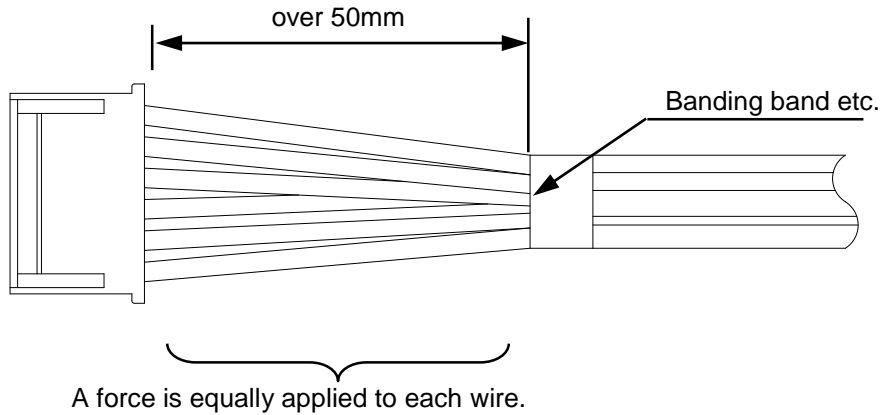

Fig.7-1 A harness is bundled properly
- ① Bundle wires at point of over 50mm away from a connector and uniformize the force applied to each wire. **(Fig.7-1)**